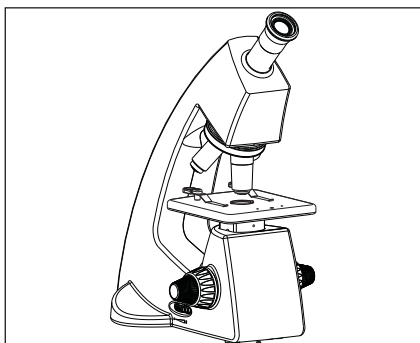

Fig. 1
- 2 To avoid potential shock hazards and burns when replacing LED, turn the microscopes main switch to the OFF position and disconnect the charger from the wall outlet in advance. Whenever you replace LED during use or right after use, allow the lamp socket to cool before touching (Fig. 1)